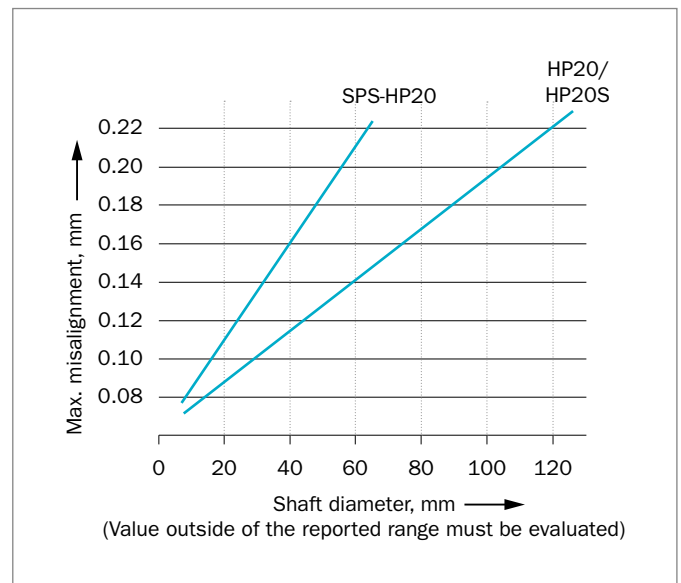

Figure 27: Maximum Shaft-to-Bore Misalignment (STBM) Values
To work properly, High Pressure Stefa® Radial Oil Seals require the STBM value to be kept below the threshold given in Figure 27.
- The maximum assembly and working misalignment must be in accordance with Figure 27.